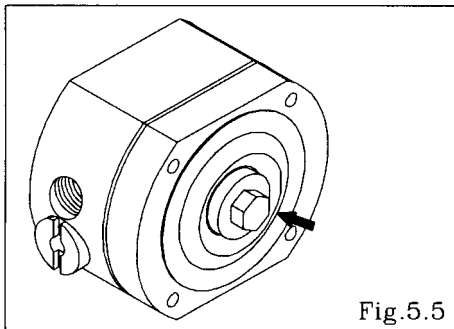

Fig.5.5
- Remove the center disk using the cap and disk remover. (special tool: Part No. 771132). (PlusAir -5) [Fig.5.5]
- Remove the center disk from one side.(PlusAir -15) [Fig.5.5]